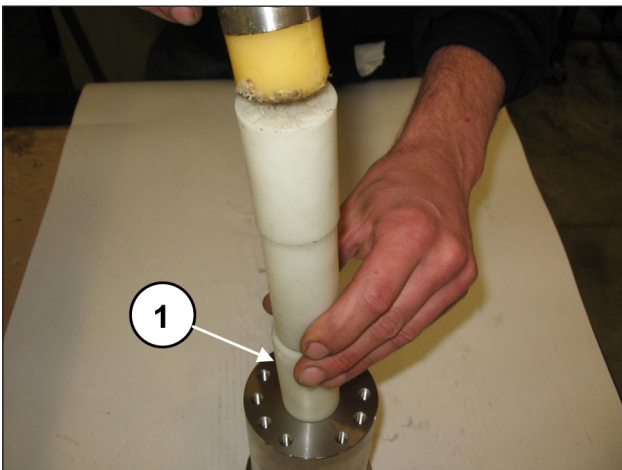
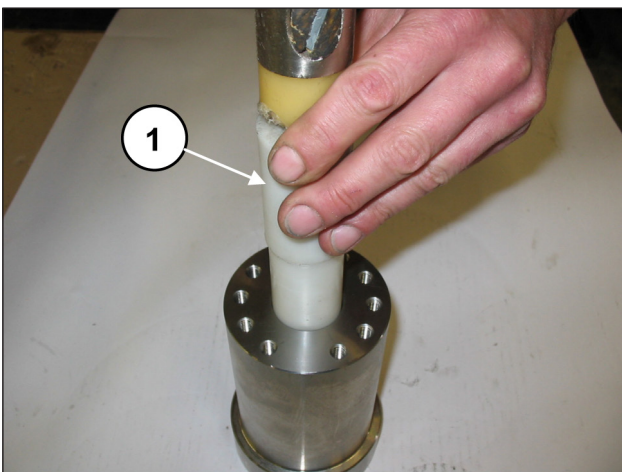

Fig. 130
Fig. 131
For the correct axial positioning of the bush, use the special tool (code 27911200 for SK20, code 27911400 for SK22, code 27911500 for SK24, code 27911600 for SK26, code 27911700 for SK28 and code 27911800 for SK30) (pos. ①, Fig. 130 and Fig. 131).